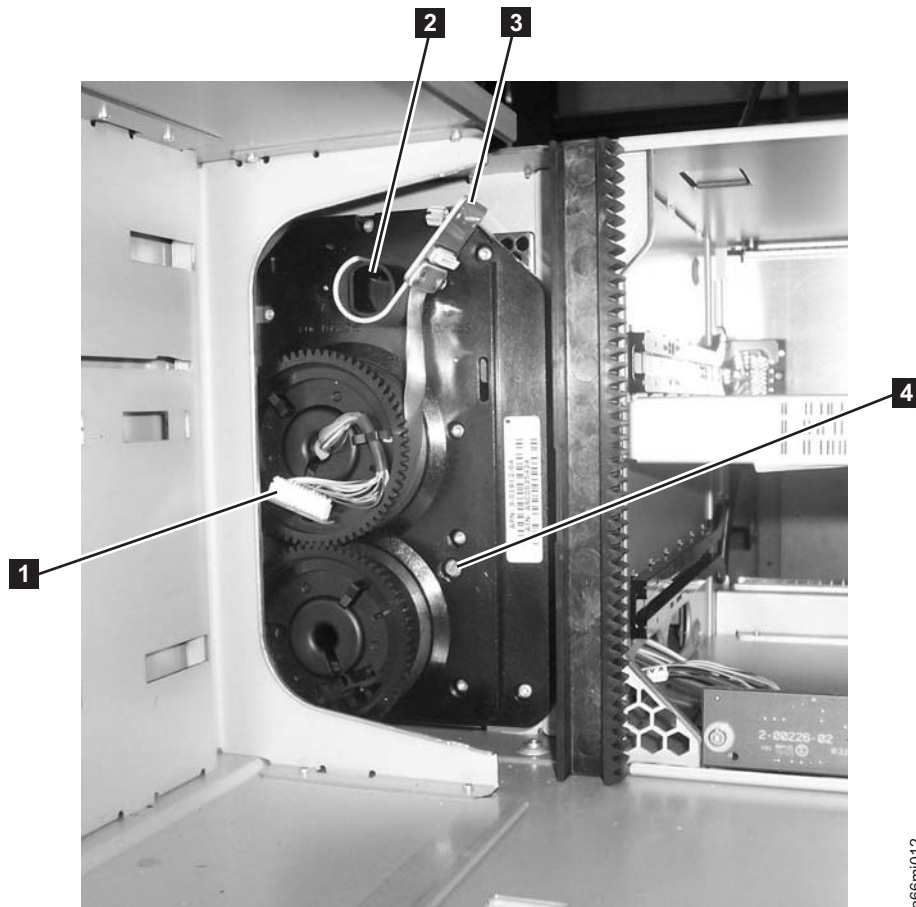

Figure 8-34. Cable Spool (with storage columns removed)
- Carefully lower the Cable Spool connector (**3** in Figure 8-34) and hook it around the black plastic guide peg (**2** in Figure 8-34).
- Remove the Cable Spool connector (**3** in Figure 8-34) from the black plastic peg (**2** in Figure 8-34).